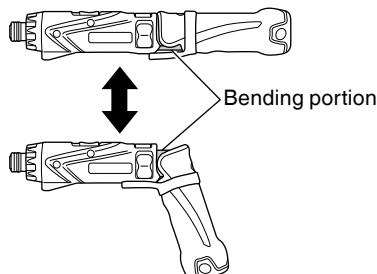

Fig. 13
- If the rubber cover becomes loose, damaged or lost, contact your metabo HPT AUTHORIZED SERVICE CENTER. (Fig. 13)